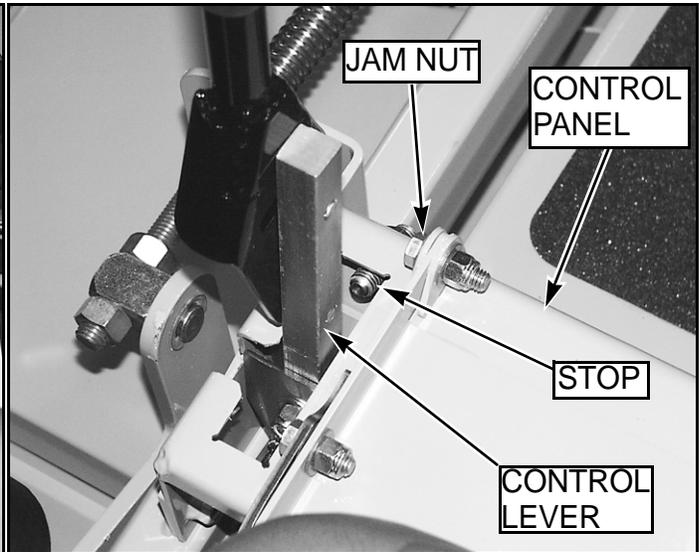

FIG. 21
8. After adjusting for neutral it may be necessary to re-adjust the control lever stop FIG. 21.
The control lever stops FIG. 21 are designed to do two things: First, and most important, they must keep the pumps from bottoming out internally. Secondly, the stops may be adjusted to help drive straight when the control levers are pushed forward against the stops.